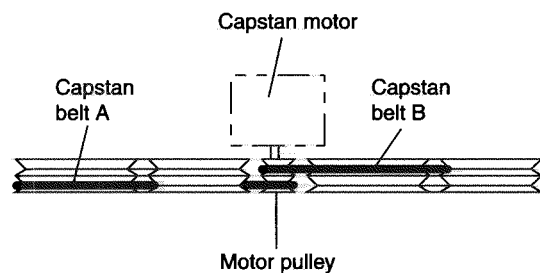

Fig.6
2. While raising the capstan motor, remove the capstan belts A and B respectively from the motor pulley (See Fig. 6).